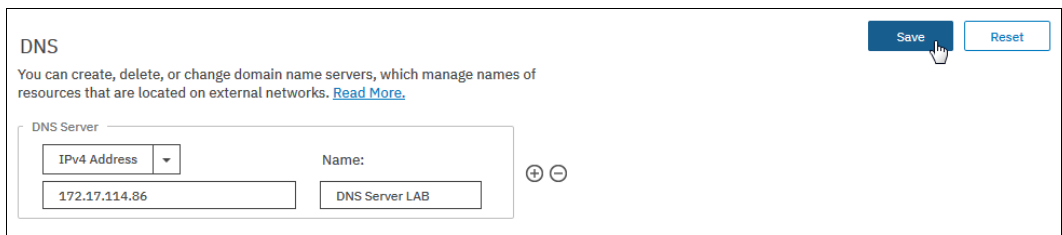

Figure 12-116 DNS IP Address
11. Enter the DNS IP address and click **Save** (see Figure 12-116).